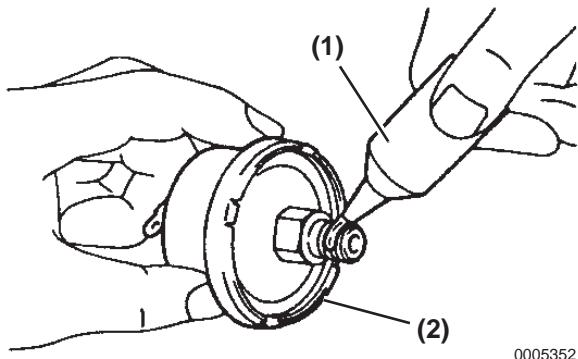

Figure 8-2
5. Apply THREE BOND 1344, LOCTITE 242 or equivalent (**Figure 8-2, (1)**) to the threaded portion (2 to 3 threads) of the hydraulic sender unit (**Figure 8-2, (2)**) and install the oil pressure sender unit.